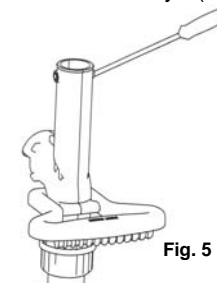

Fig. 5
1. Remove the handle screw and then insert the handle into the connector assembly. (Fig. 5)